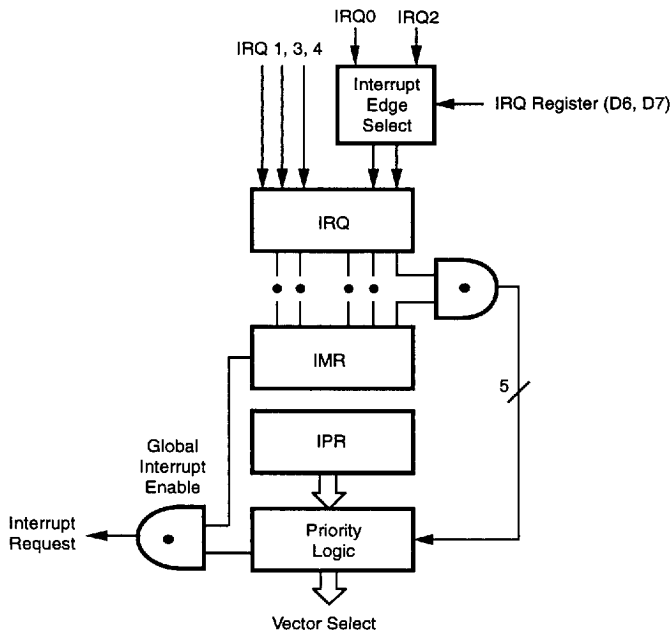

Figure 33. Interrupt Block Diagram
**Interrupts.** The Z86L7X has five different interrupts. The interrupts are maskable and prioritized (Figure 33). The five sources are divided as follows: three sources are claimed by Port 3 lines P33-P31, the remaining two by the